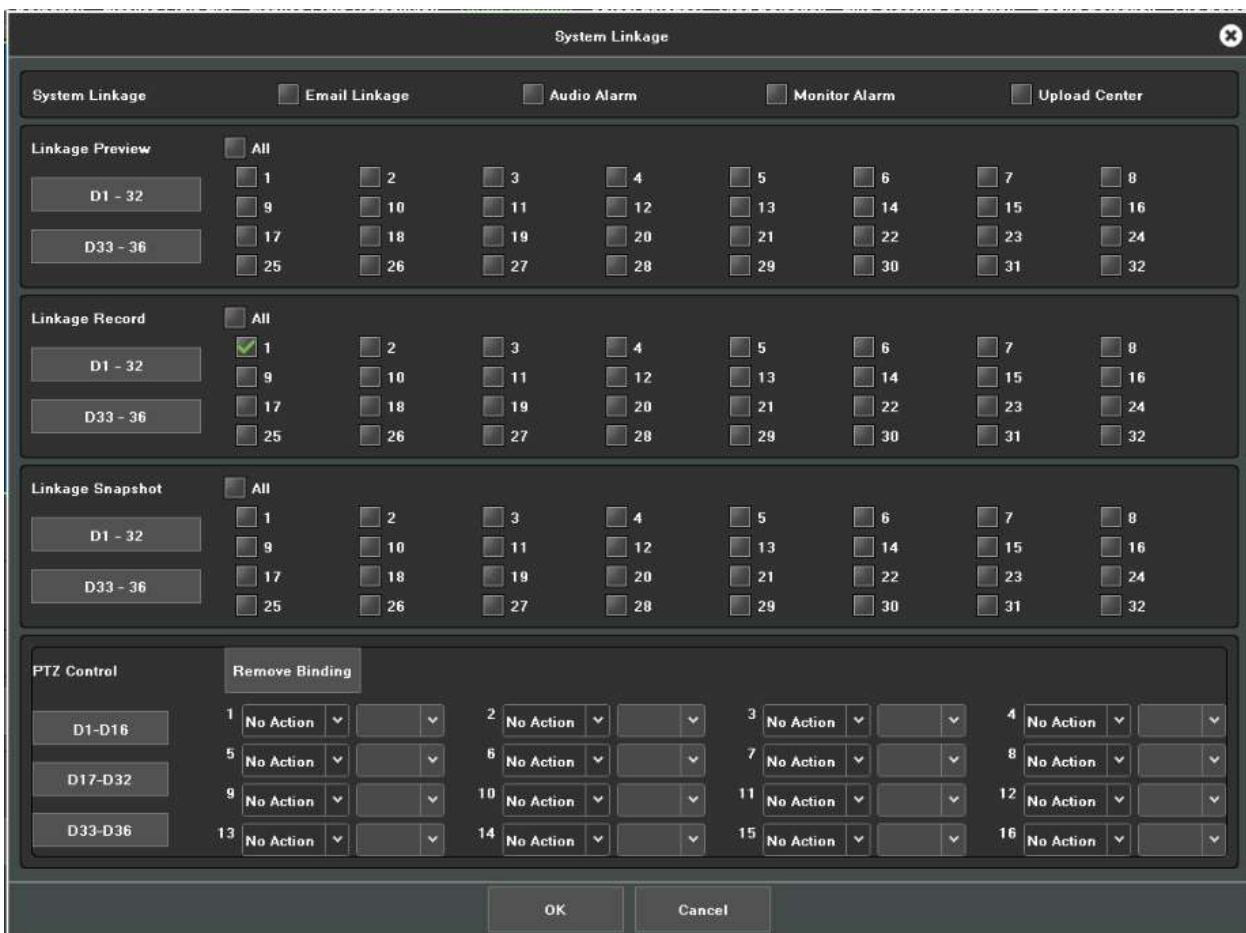

Figure 12.3 Linkage Mode
- **Linkage Way:** Choose the type of alarm linkage, as shown in Figure 12.3.